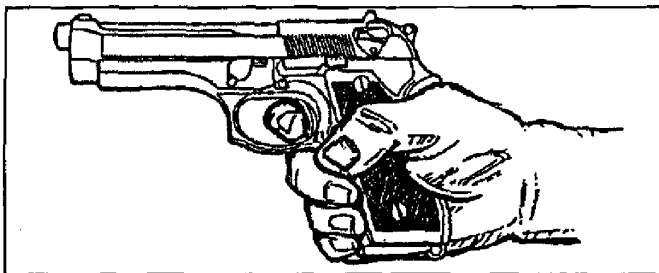

Figure 071-004-0006-2. One-hand grip
a. **Supported grip.** The only supported grip is the one-hand grip (figure 071-004-0006-2). Begin by gripping the weapon as previously described (step 2). Allow the thumb of your firing hand to rest without pressure beside your weapon. Place your trigger finger, between the tip and the second joint, on the trigger, so you can squeeze the trigger to the rear. Your trigger finger must work independently of your other fingers.
b. **Unsupported grips.** You may use any of three nonfiring hand grips to support your firing hand (figure 071-004-0006-3, figure 071-004-0006-4, and figure 071-004-0006-5).